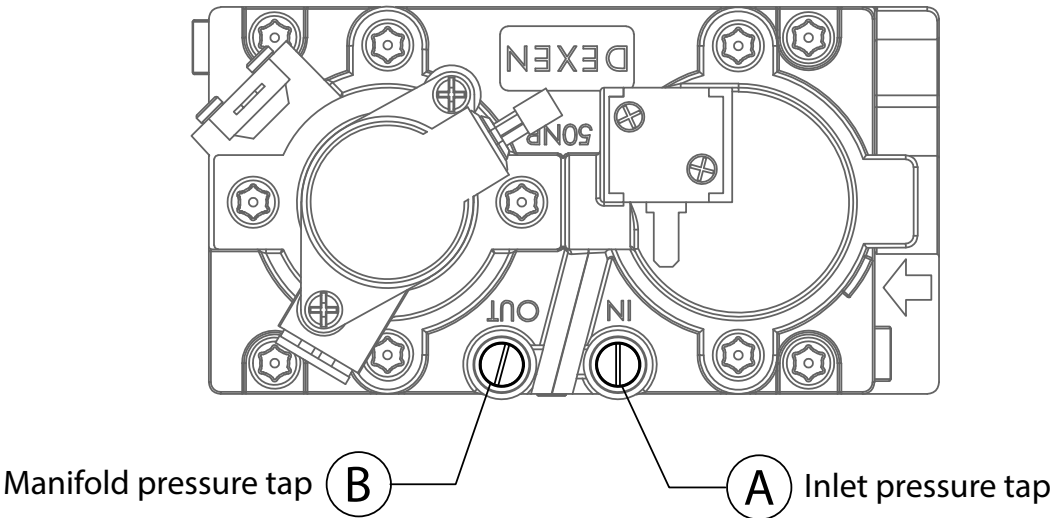

FIGURE 11.1 Pressure Check Taps
- 1. Loosen the inlet (IN) pressure tap by turning screw counter-clockwise. See (A) in **FIGURE 11.1**.
- 5. Disconnect hose and tighten the inlet (IN) pressure tap by turning screw clockwise. Screw should be snug. Do not over tighten.
- 6. Relight pilot and burner. Then reattach manometer to the inlet pressure tap (A) to verify the tap is completely sealed. Manometer should read no pressure.
- 2. Loosen manifold (OUT) pressure tap by turning screw counter-clockwise. See (B) in **FIGURE 11.1**.
- 7. Attach the manometer to the manifold pressure tap (B) to verify it is completely sealed. The manometer should read no pressure when pilot and burner are on.